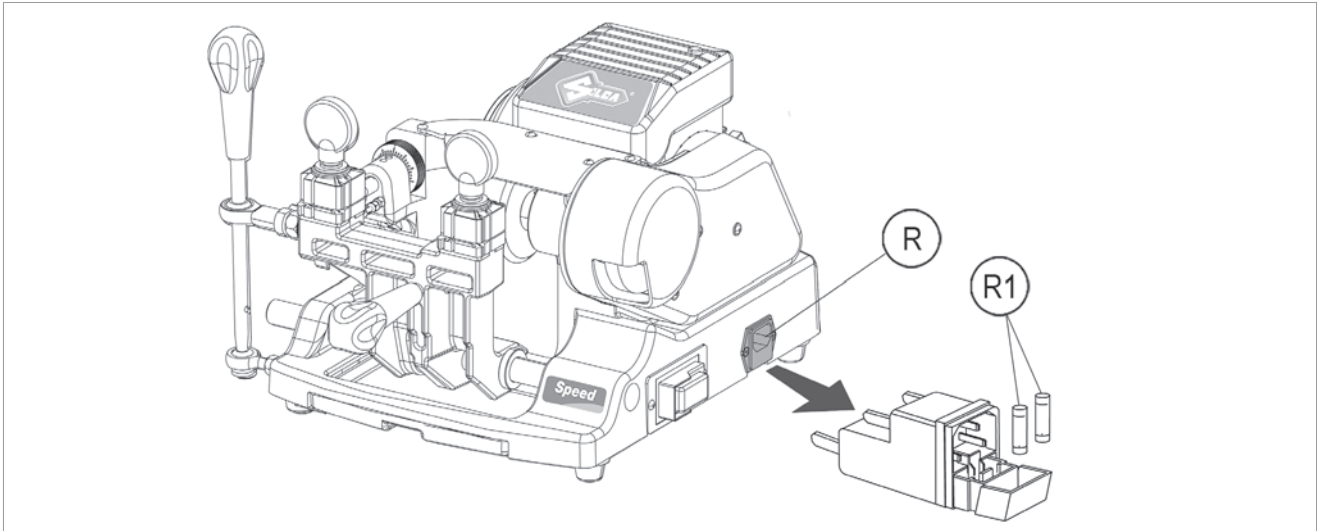

Fig. 34
- 1) Remove the fuses box from the key-cutting machine socket (R) (Fig. 34).